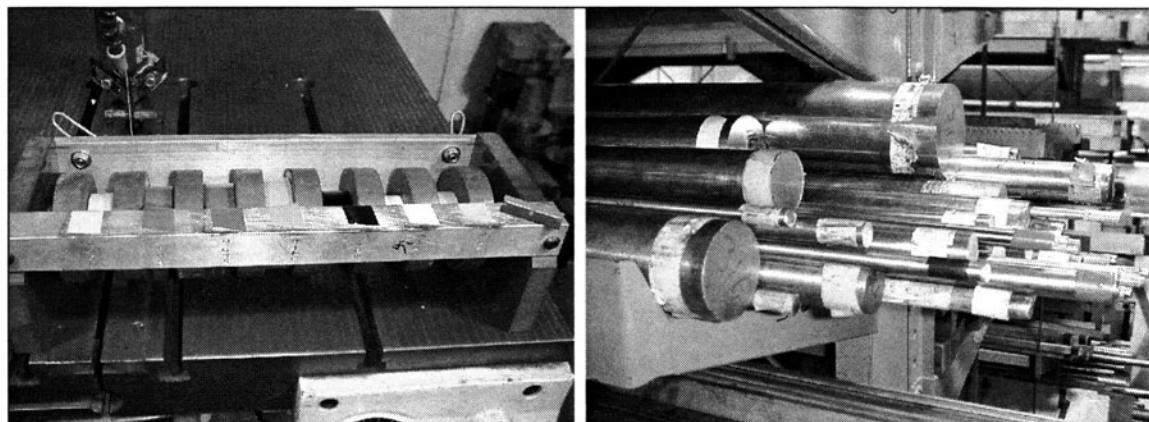

FIGURE 6-13 Colored tape can be used to quickly tag and identify raw stock.
20. Use colored tape to identify raw stock. (See Fig. 6-13)